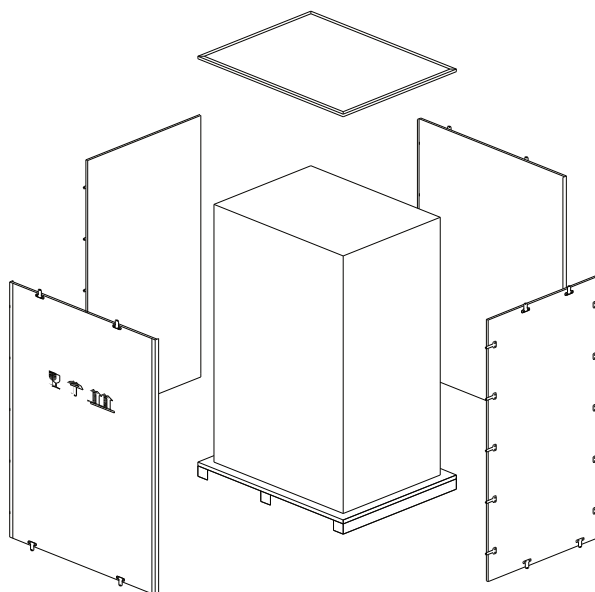

Figure 2-4 Disassemble the case
- 3) Open the top plate of the steel-edged wooden case with slotted awl and pier, followed by sideboards (see Figure 2-4).